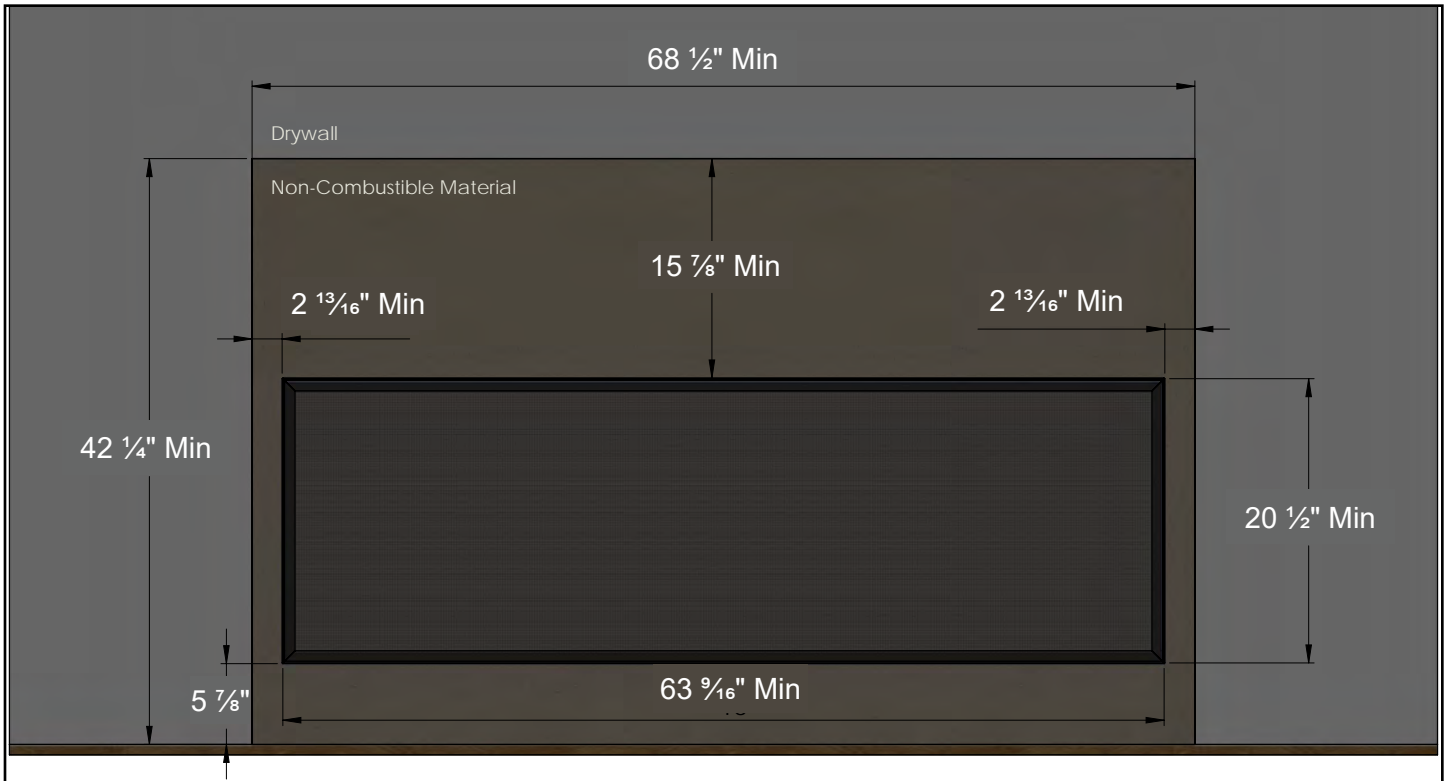

Figure 12.4.07: Dimensions of non-combustible material over face of fireplace
*See dimensions in **Figure 12.4.07**.